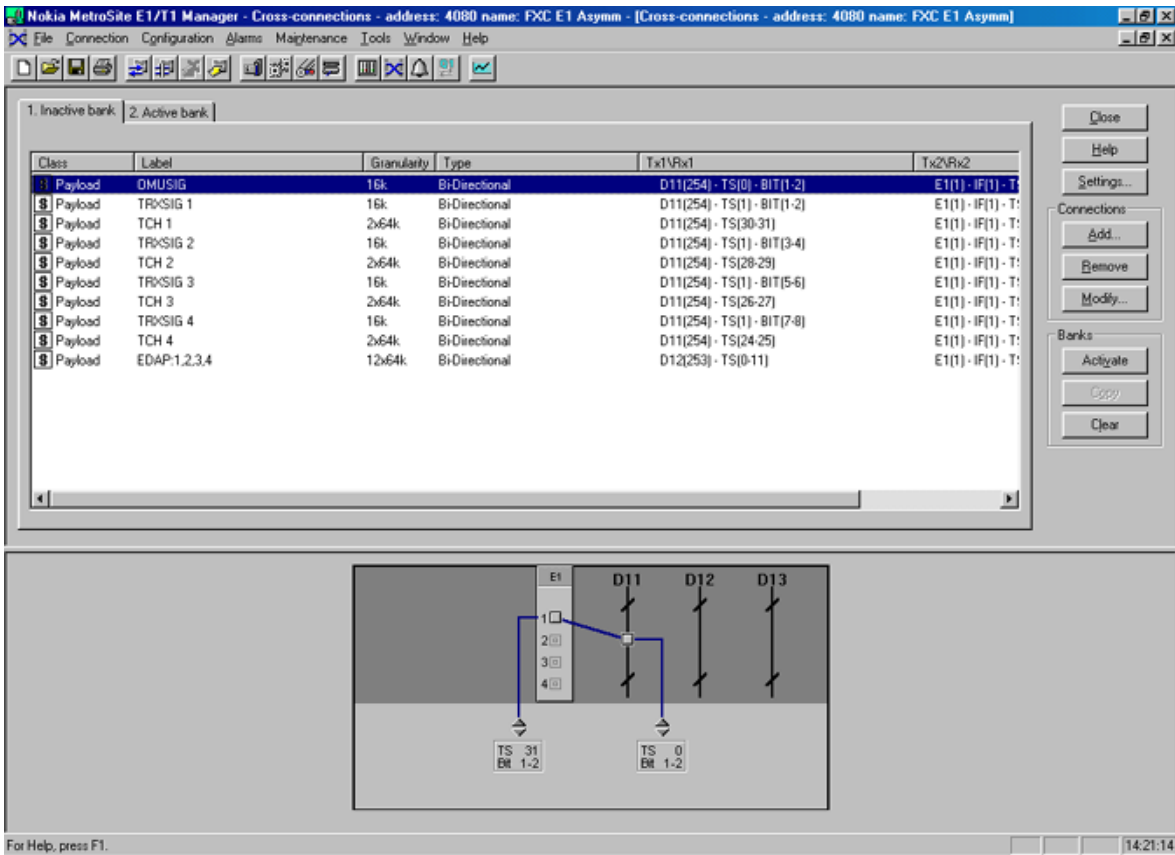

Figure 34. Cross-connections window in E1/T1 Manager
2. Select CONFIGURATION | CROSS-CONNECTIONS on the E1/T1 Manager menu bar. The *Cross-connections* window opens, as shown in Figure 34.